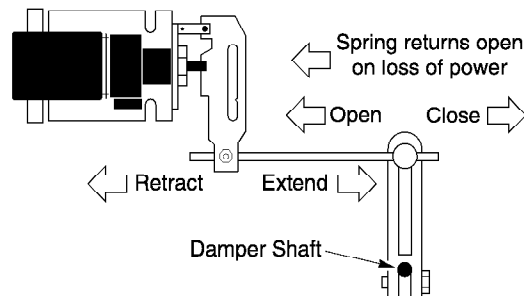
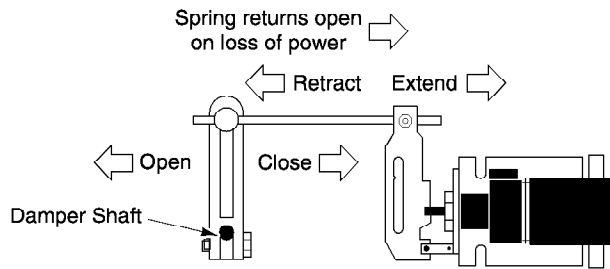

Figure-14 Dampers Open When Actuator Retracts (Spring>Returns Open on Power Loss).
Figure-15 Dampers Open When Actuator Extends (Spring-Returns Closed on Power Loss).
- Determine, from the system requirements, if the damper should spring-return to the open position (Figure-14) or closed position (Figure-15) whenever power is lost to the actuator. An actuator is normally linked so as to retract (spring-return) to the damper's fully open position (heat position).